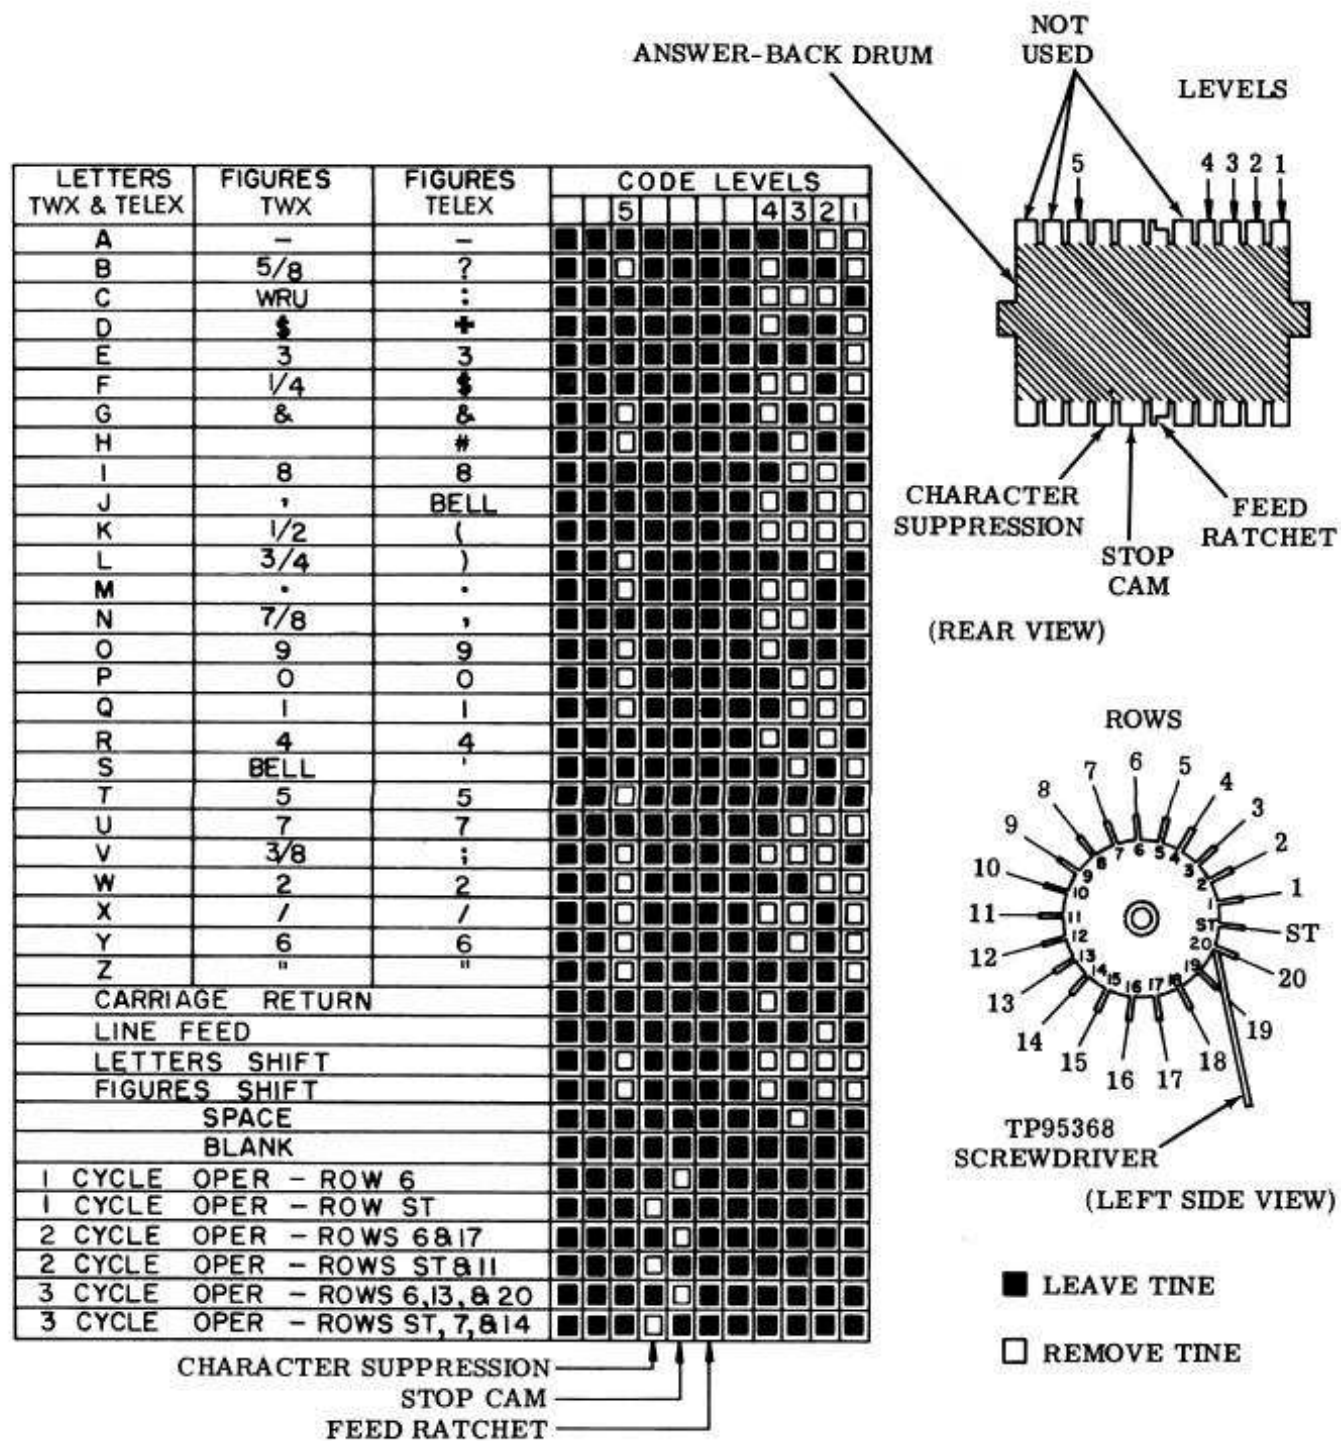

Figure 3 - Coding of Answer-Back Drum — 32 Teletypewriter Set
2.04 Figures 3 and 4 illustrate the coding of the answer-back drum.
2.06 The answer-back drum, prior to coding, is identical in either 5- or 8-level operation. As can be seen in Figure 3, three levels are not used when coding the answer-back drum for 5-level operation. The tines in these three levels may be left intact, since
2.08 A row is coded for a particular character by breaking and removing the tine(s) as designated in Figures 3 or 4. Either of the two following methods may be used for breaking off tines:
(a) Method 1: Use a TP95368 screwdriver to remove each tine. Place the end of the screwdriver blade at the base of the tine to be removed. While applying pressure against the base of the adjacent tine, press the side of the blade against the top of the tine to be removed until it breaks. If both tines adjacent to the tine to be removed have been broken off, apply the end of the screwdriver to the stub of either one in breaking off the unwanted tine. This method of removing a tine is indicated in the illustration showing the tine rows in Figures 3 and 4. In the illustration, pressure is being applied to the base of a row no. 20 tine and against the top of an adjacent tine in row no. 19 to break it off.
tine(s) from the stop cam level, as indicated in Figures 3 and 4.